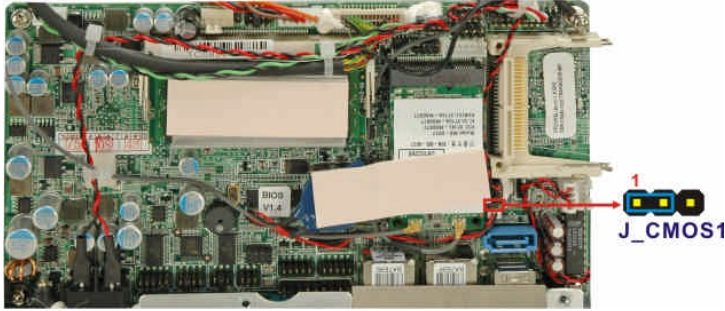

Figure 1-7: Clear CMOS Jumper
- Jumper Location:** See **Figure 1-7**
The location of the clear CMOS jumper is shown in **Figure 1-7** below.